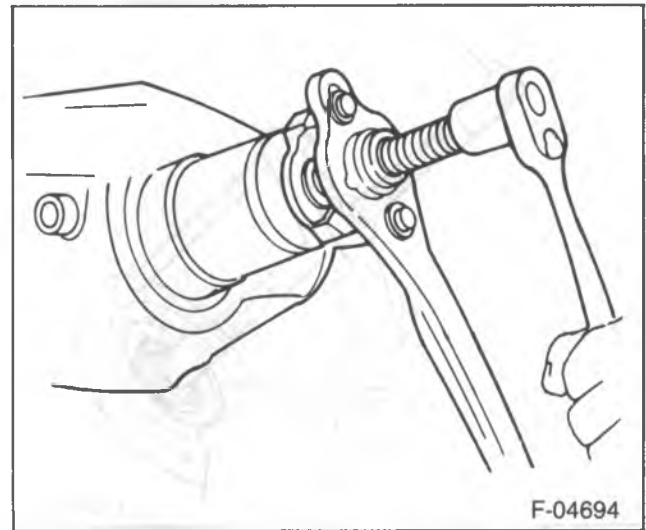

Figure 13—Removing the Pinion Flange
- 17. Pinion flange (10) using J 8614-01 (figure 13).